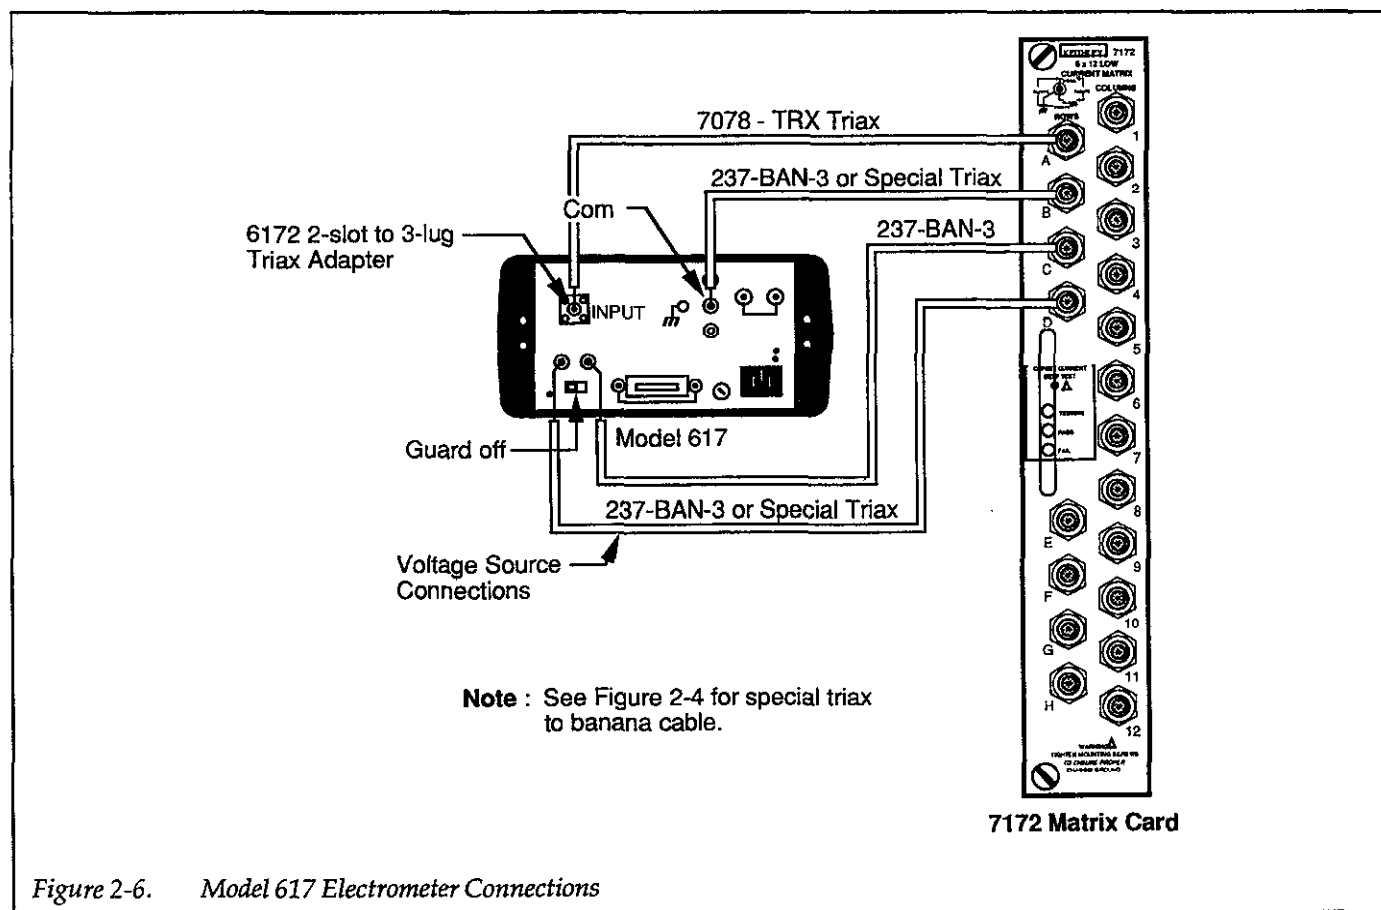

Figure 2-6. Model 617 Electrometer Connections
Connections for the Model 617 Electrometer are shown in Figure 2-6. The electrometer INPUT and COM can be
connected to any row. Figure 2-6 shows connections to rows A and B.
6. To connect the voltage source to the Model 7172, connect the V-SOURCE HI and LO connectors of the Model 617 to the desired row connectors on the matrix card. Figure 2-6 shows connections to rows C and D.